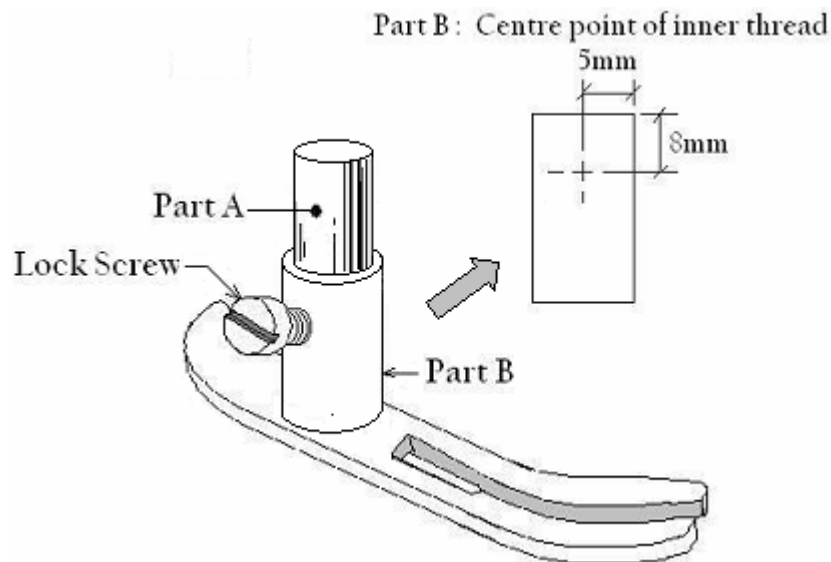

Figure 1
1. Figure 1 shows a sewing machine component, which is made from casting process.